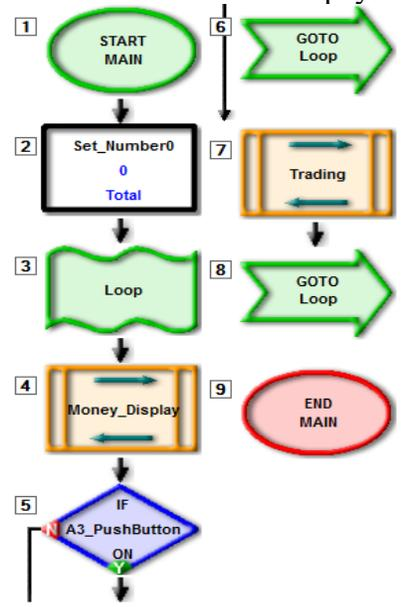

Figure 5: Main program
There are two main groups in the program as shown in Figure 5, which are “Money_Display” and “Trading”. In the “Money_Display” group, the value of the POT is shown as “Money”; when the push-button is pressed, the number of “Money” will be added to “Total”. In contrast, “Trading” will only be activated when “A3_PushButton” is pressed. The “Trading” group will subtract 100c, 160c or 200c from “Total” to simulate the payment.
6. Compare your program to Figure 5 and send your program to chip.